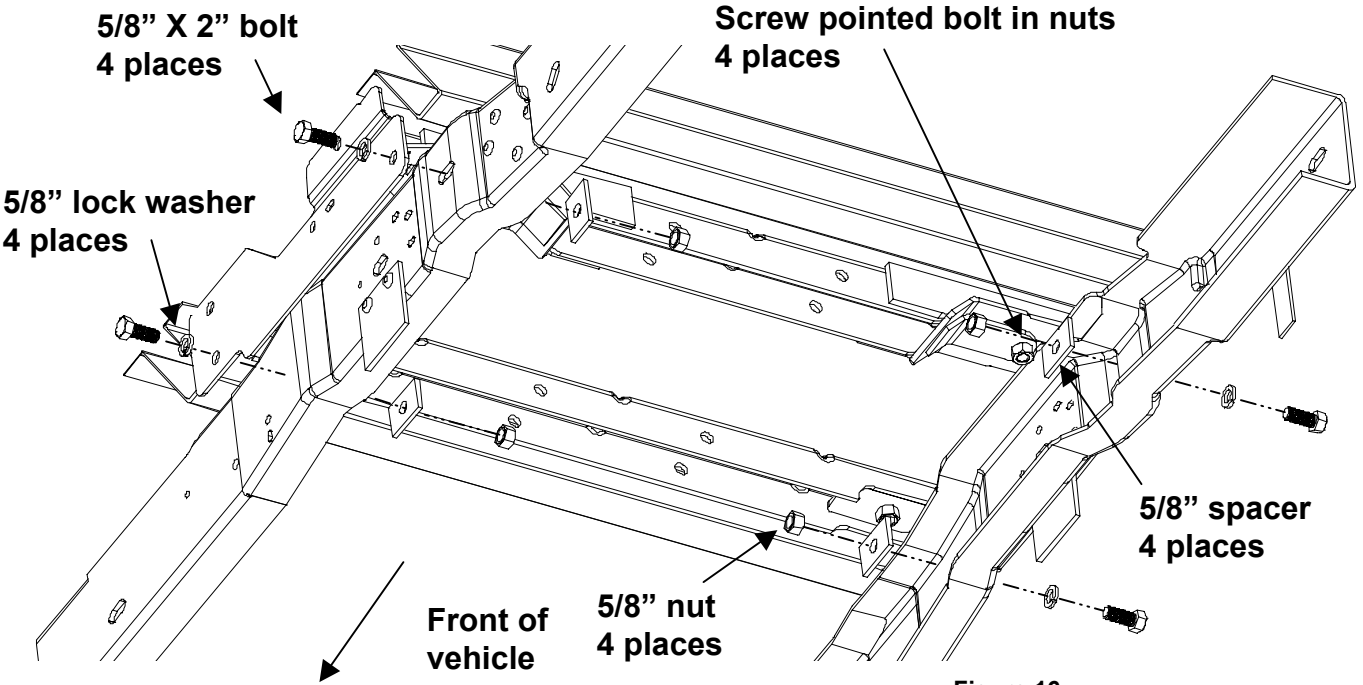
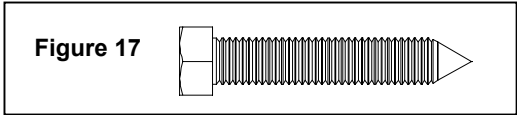
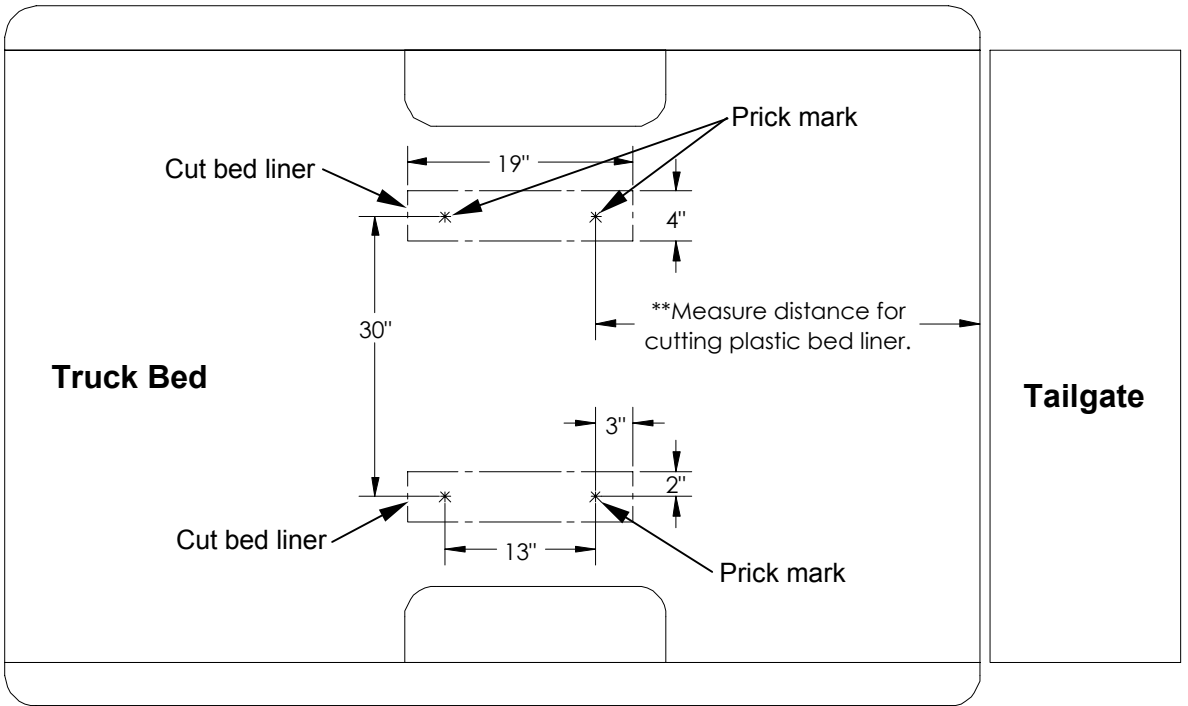

Figure 16
Figure 17
Figure 18
11. Loosely attach frame bracket to chassis frame using 5/8" X 2" bolts, spacers, lock washers, and nut. Tighten to hand tight (**Figure 16**).
12. Using pointed bold (**Part #58255**)(**Figure 17**), screw pointed bolt in to the nut that is welded to the rail assembly until a prick mark is clearly visible on the truck bed (**Figure 16**). If access to a welded nut is obstructed by chassis components, a fourth prick mark should be made on the bed based upon measuring from the other prick marks (**Figure 18**). If a plastic bed liner is used cut 19" X 4" slots in the liner measured from prick marks in truck bed. If the *Signature Series* slider fifth wheel assembly is used, then see fifth wheel slider assembly instructions for slot cut dimensions.